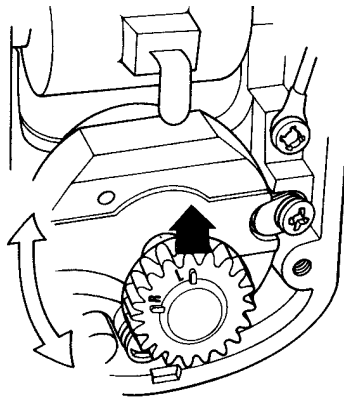

Figure 7.14
- B. Align the "L" or "R" (depending on the rotation of the magneto - look at data plate) on the rotor gear so that it points up, toward the high tension lead of the coil. Secure rotor shaft to prevent rotation during assembly. Alignment of rotor gear is critical. (See Figure 7.14.)